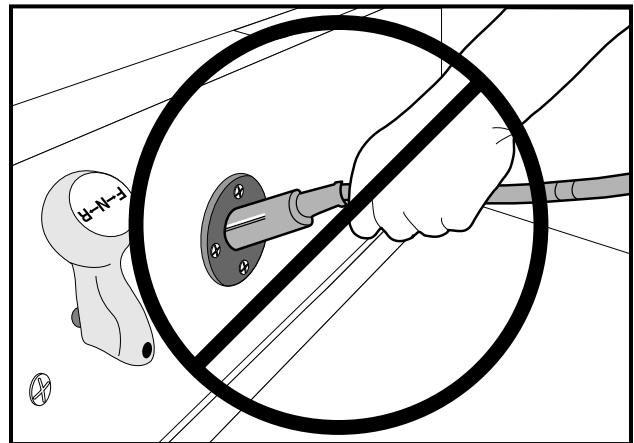

FIGURE 24
- DO NOT PULL ON THE DC CORD (SEE FIGURE 24). DO NOT TWIST, ROCK OR BEND THE PLUG. TO DISCONNECT THE CHARGER PLUG FROM THE VEHICLE RECEPTACLE, GRASP THE PLUG BY THE HANDLE AND PULL THE PLUG STRAIGHT OUT OF THE RECEPTACLE.
- FAILURE TO FOLLOW THESE INSTRUCTIONS COULD RESULT IN DAMAGE TO THE CHARGER CORD, THE PLUG, AND (OR) THE VEHICLE'S RECEPTACLE.